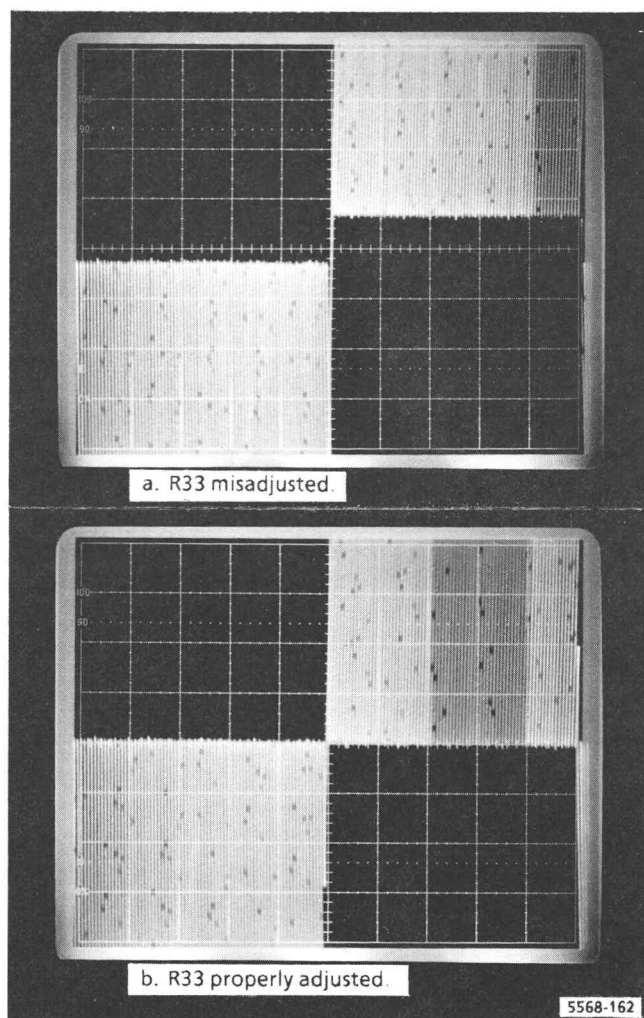

Fig. 4-39. AGC current adjustment.
- h. **ADJUST** R33 so the corners of the two displayed fields just touch. See Fig. 4-39.